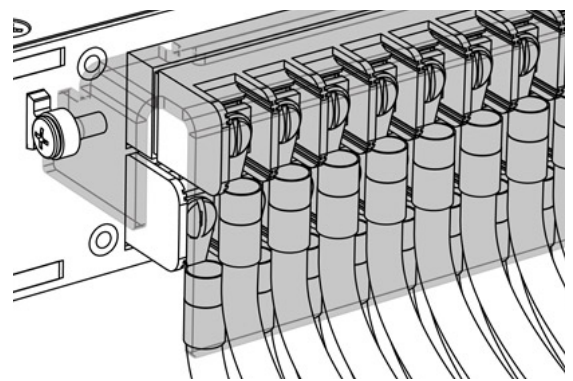

Figure 16. Output safety cover
- Step 3.** Attach the included output safety cover by snapping it onto the pre-tightened mounting screws (see Figure 16).